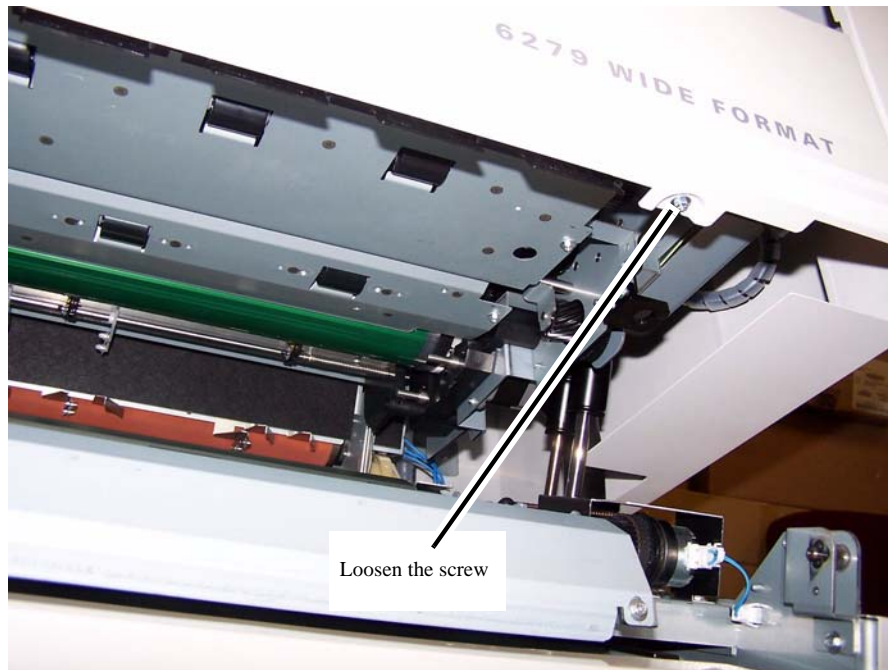
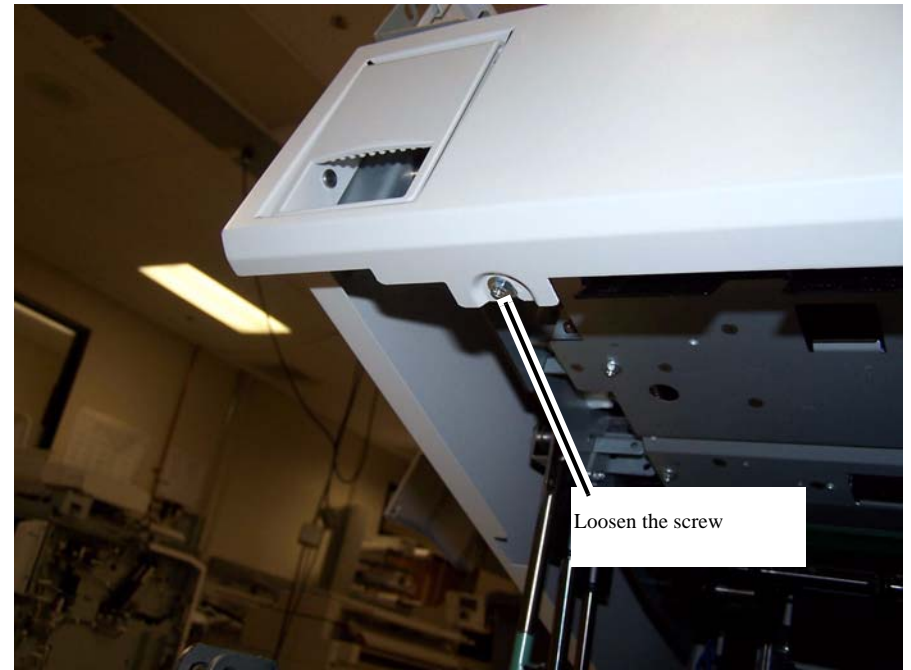

Figure 3 Right lower screw location
Figure 4 Left lower screw location
5. Loosen the screws (2) located on the bottom front edge of the Front Upper Cover (Figure 3 and Figure 4).